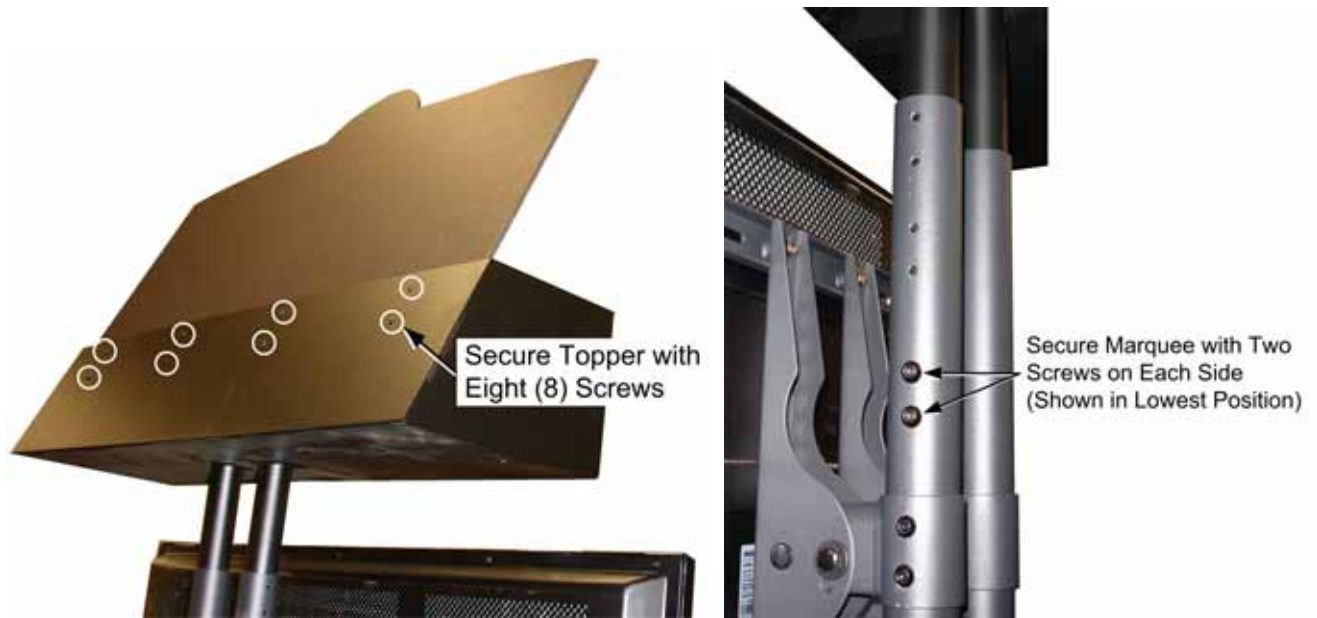

Figure 4. Installing the Marquee
1. Align the eight (8) pre-drilled holes in the topper with the holes in the marquee box, with the topper inside the box, and insert an 8-32 x 3/4" screw in each hole, as shown in Figure 4.
4. Adjust the marquee assembly to the desired height, with the two threaded holes in each marquee leg aligning with two of the holes in the monitor stand. Secure with two M8 Allen head screws with the included Allen wrench in each side as shown in Figure 4.